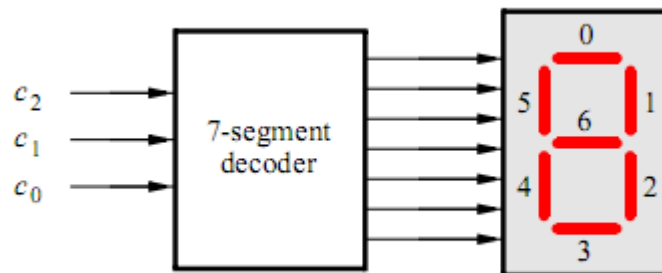

Figure 6.A 7-segment decoder.
Figure 6 shows a 7-segment decoder module that has the three-bit input $c_2c_1c_0$. This decoder produces seven outputs that are used to display a character on a 7-segment display. Table 1 lists the characters that should be displayed for each valuation of $c_2c_1c_0$. To keep the design simple, only four characters are included in the table (plus the 'blank' character, which is selected for codes 100 – 111). The seven segments in the display are identified by the indices 0 to 6 shown in the figure.
3. The segments in this display are called $HEX0_0, HEX0_1, \dots, HEX0_6$, corresponding to Figure 6. You should declare the 7-bit port output [0:6] HEX0_D; in your Verilog code so that the names of these outputs match the corresponding names in the DE2-115 User Manual and the DE2-115 pin assignments.csv file.